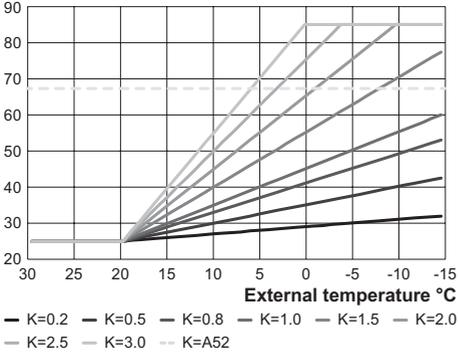
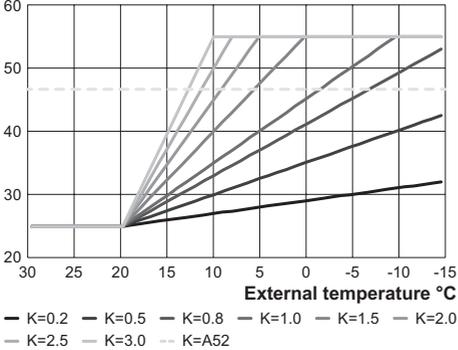
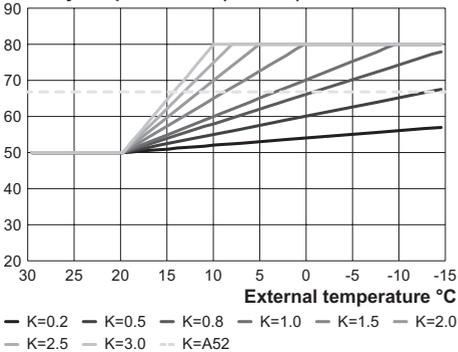

Figure 5.28
Figure 5.29
Figure 5.30
With heating temperature setting **25-85°C** (Figure 5.28) (factory preset) or temperature setting **25-55°C** (Figure 5.29) or temperature setting **50-80°C** (Figure 5.30) (see "Selecting the heating temperature set" on page 47).
- Use 15 or 16 to change the value of parameter P08 from a minimum of **1.0** to a maximum of **3.0** based on the selected curve of the K coefficient in Figure 5.29 (the values shown on the display is the K coefficient decimal).